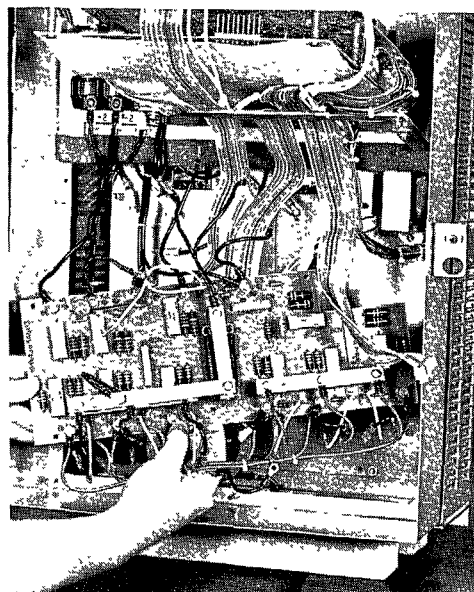

FIGURE 38B
5. Lift out the card. If replacing the old card with a new one, save the wires left on the old card as required to install the new one. (see Fig. 38B)